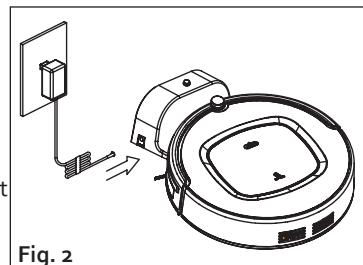

Fig. 2
3. Take the adapter, put the plug in the outlet and put the DC plug into the charging station (Fig. 2).